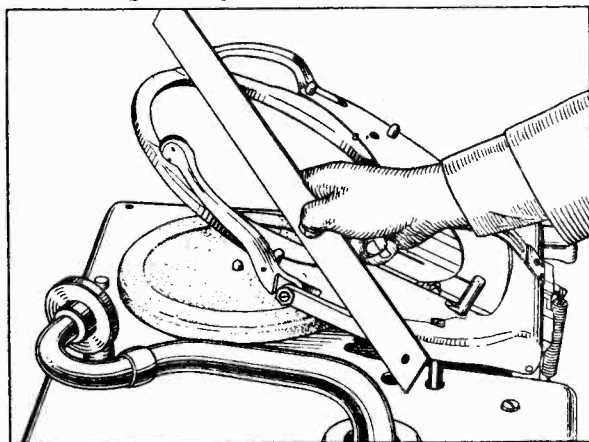

Fig. 7—Straight Edge on Lift Ring
2. With the lift ring in its highest position, turn the hopper adjusting nuts so that the top surface of the hopper is exactly flush with the top of the lift ring. A straight edge can be used as a gauge for this height. It should be placed across the two surfaces as shown in Fig. 7. This same method should then be used for gauging the height on the opposite side of the hopper. Turn the hopper support screws so that there can be an additional upward movement of the hopper of approximately $\frac{1}{16}$ " on each side with